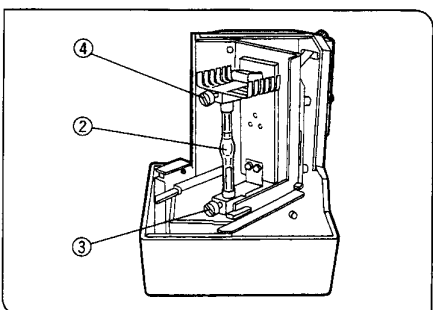

Fig. 2
2. Loosen the burner clamping screws ③ and ④ and remove the transport post. (For burner replacement, remove the used burner.) (Fig. 2)
3. Insert the + pole of the mercury burner ② into the + terminal and tighten the + clamping screw ③.
Then loosen the - clamping screw ④ (marked UP). Insert the - pole of the burner into the - terminal and tighten the - clamping screw ④. (Fig. 2)